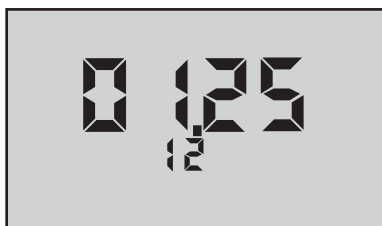

Figure 9
Example shown in Figure 9 is in US format, i.e., mo/dy/yr.
2. Press  repeatedly until the date is displayed (scrolling through stored readings, “PC OFF”, “CLF ALL” and time to the date, e.g., “01.25 12” (Figure 9), January 25, 2012).